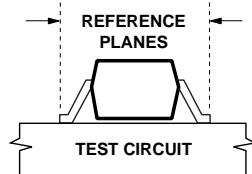

Figure 11. Reference Planes.
- Reference plane per Figure 11 in Applications Information section.
The positions of the reference planes used to measure S-Parameters and to specify Γ_{opt} for the Noise Parameters are shown in Figure 11. As seen in the illustration, the reference planes are located at the extremities of the package leads.